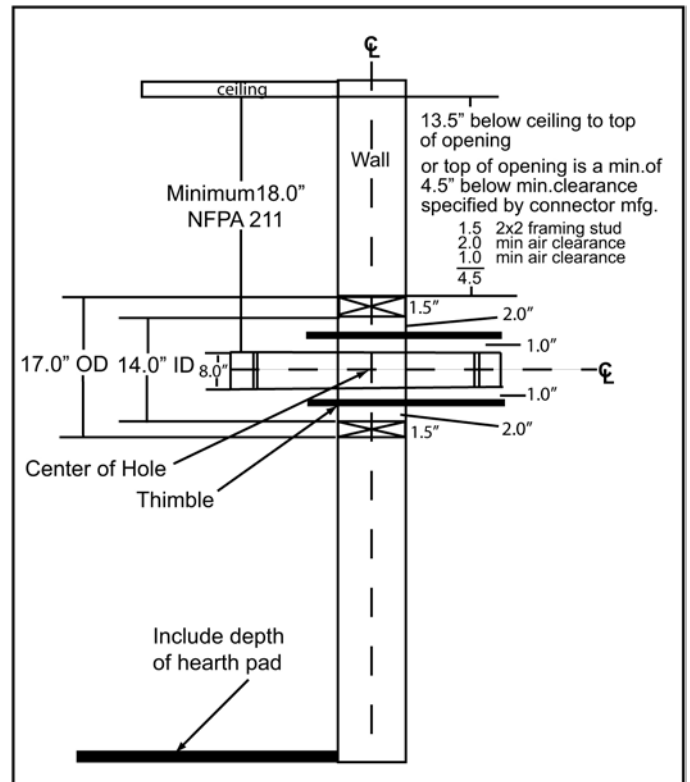

Figure 6.1
- Top of wall opening is a minimum of 1-1/2 inches (4mm) from ceiling or 4-1/2 inches (114mm) below minimum clearance specified by chimney connector manufacturer. NFPA 211 minimum vertical clearance of 18 inches (457mm) from chimney connector and ceiling or minimum recommended by chimney connector manufacturer. **Figure 6.1.**
nector to entry the masonry chimney. **Figure 6.1.**
3. Construct a 17 inch x 17 inch (42mm x 42mm) out-side dimension frame from 2 x 2 framing lumber to fit into wall opening. Inside opening of frame should be no less than 14 inch x 14 inch (56mm x 56mm). **Figure 6.1.**